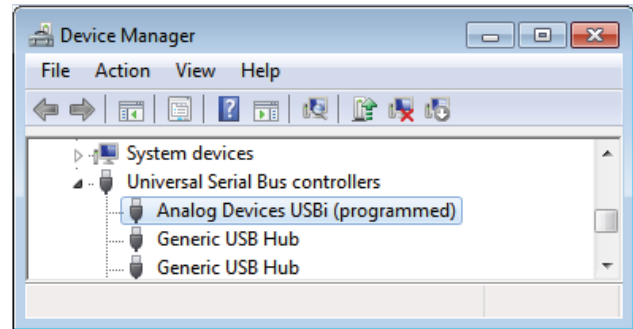

Figure 11. Confirming Driver Installation Using the **Device Manager**
- In Windows **Device Manager**, under the **Universal Serial Bus controllers** section, check that **Analog Devices USBi (programmed)** appears as shown in Figure 11.